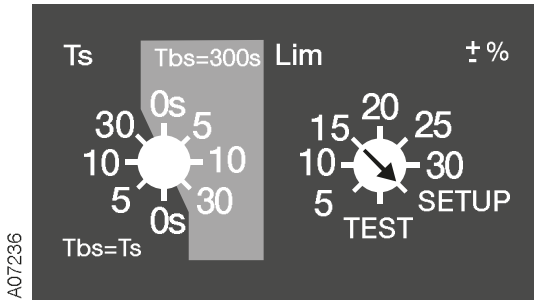

Figure 6.8      *Setting of SETUP mode with Lim rotary switch in automatic control units OMD200 and OMD300*
2. Choose SETUP mode with Lim rotary switch according to the Figure 6.8.